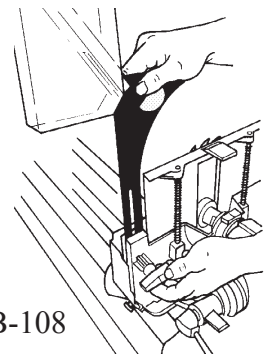

Figure B-108
66. Loosen the guard lock knob and insert the upper saw guard's riving knife between the guard and the lock plate, as demonstrated in Figure B-108.